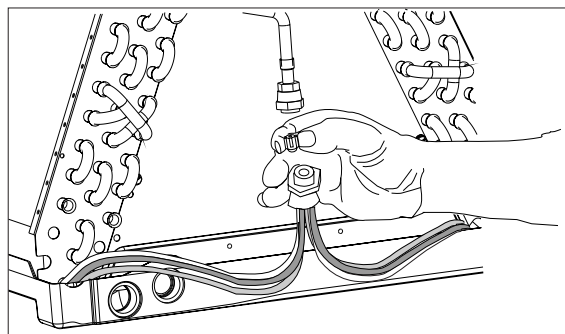

Figure 8. Orifice Insertion in Distributor Body
5. Insert the new orifice in the distributor body as shown in Figure 8.